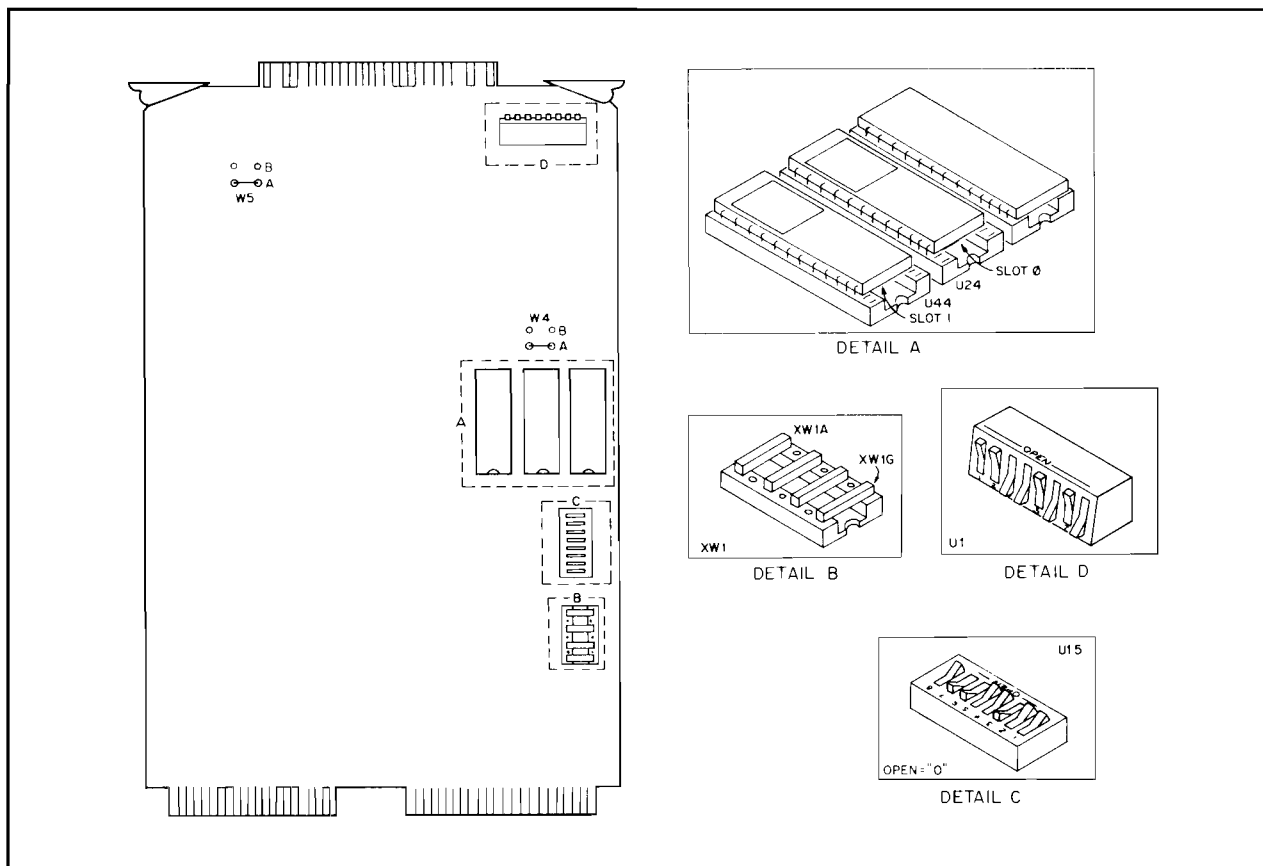

Figure 2-1. ROM/EPROM, Jumpers, and DIP Switch Locations
Refer to figure 2-1 for correct installation positioning of the firmware EPROM/ROMS.
A set of jumpers on the PSI card provides the option of using different ROM/EPROM parts. The set consists of a 14-pin socket housing seven removable jumpers (XW1A through XW1G), and one hardwired jumper (W6). Check to see that XW1A through XW1G are configured as described in tables 2-1 and 2-2 for the specific ROM/EPROMS that are installed. (The hardwired jumper, W6, is configured at the factory.) Refer to figure 2-1 for the physical locations of the jumpers on the card. Functional locations of the jumpers are shown on the schematic logic diagram (figure 6-2, sheet 2, in Chapter 6).
Two additional jumpers, W4 and W5 (see figure 2-1 for the physical locations and figure 6-2, sheet 2, for the functional locations), are configured according to the function for which the card is to be used. Jumper W4 must be in the A position during normal operation and when testing the interface with a Diagnostic or Loop-back hood installed. This configuration releases the Terminal Ready line (TR) to firmware control. Refer to the applicable firmware manual for applications requiring this jumper to be placed in position B. Jumper W5, normally in the A position, should be set to the B position when the PSI card is to be used as an HP Data Link Master. Refer to the applicable firmware manual for the exact configurations of jumpers W4 and W5.
The card provides a Dual In-line Package (DIP), U15, containing eight switches which may be sensed by the firmware. This set of switches can be used to determine such parameters as the information field size, the transmit clock rate, and associated time-out values, etc., depending on the firmware implementation. The transmit clock rate should be set to indicate the clock rate that is supplied by the modem being used. Refer to figure 2-1 for switch positions on the card, and to the firmware manual for switch settings.
The card provides another pack of eight switches, U1, which is used to specify interface configuration information such as Virtual Control Panel (VCP) interface selection, ground reference, and interface card select code. Locations of the switches are shown in figure 2-1, and the functions of the eight switches are presented in table 2-3. Refer to the firmware manual for settings.